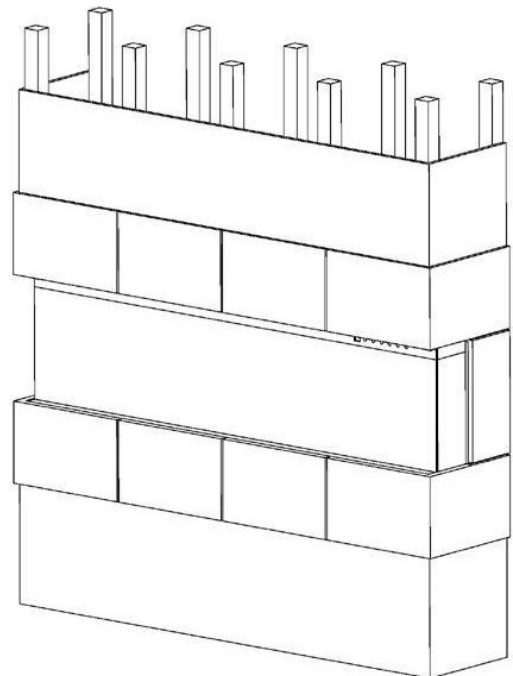

Fig.3-5
8. Decorate the plywood or drywall with glazed tile, wallpaper, etc. Fig.3-5